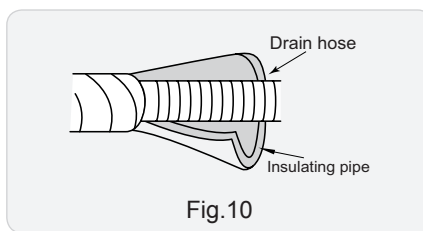

Fig.10
(3) Add insulating pipe in the indoor drain hose in order to prevent condensation. (As show in Fig.10)